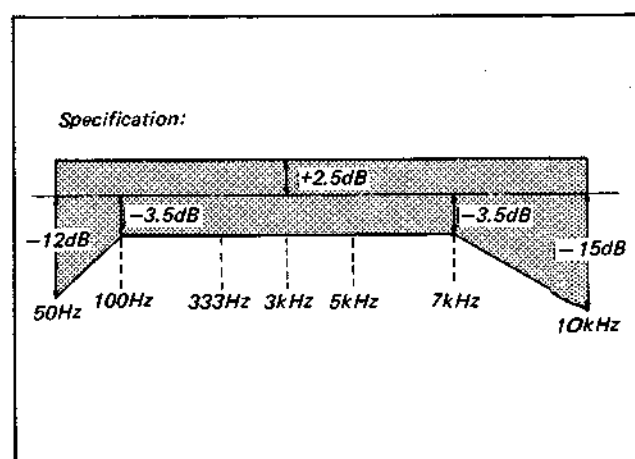

Fig. 4-5-1. Overall frequency characteristic check
- (1) Set the oscillator frequency to 333 Hz and adjust the AUDIO terminal level with the attenuator for -25 dB.
- (2) Record the signal.
- (3) Change the oscillator signal to 50 Hz, 100 Hz, 3 kHz, 5 kHz, 7 kHz and 10 kHz.
- (4) Record the signals.
- (5) Play back the recorded signals.
- (6) Ensure that the output levels are within the specified values. (See Fig. 4-5-1.)